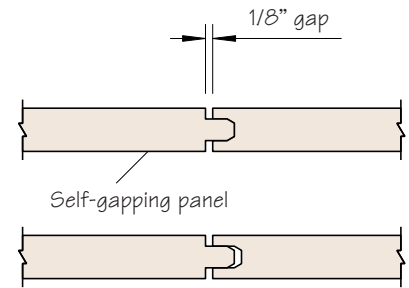

Figure 12
1. Leave  $\frac{1}{8}$ " gap at all edges and end joints for expansion. Some sheathing panels are self-gapping (Figure 12).